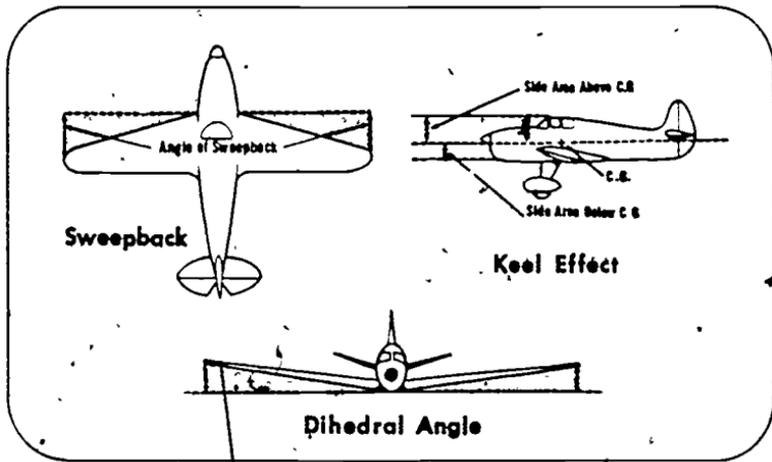

Figure 35: Dihedral, Keel Effect, and Sweepback
wings will return to straight and level flight once the force is removed. This type of stability is comparatively easy to obtain. Three factors help make an aircraft stable along its lateral axis: (1) the dihedral angle of the wings, (2) keel effect, and (3) sweepback. Study Figure 35 briefly, and then we'll look at these three design characteristics, one at a time.